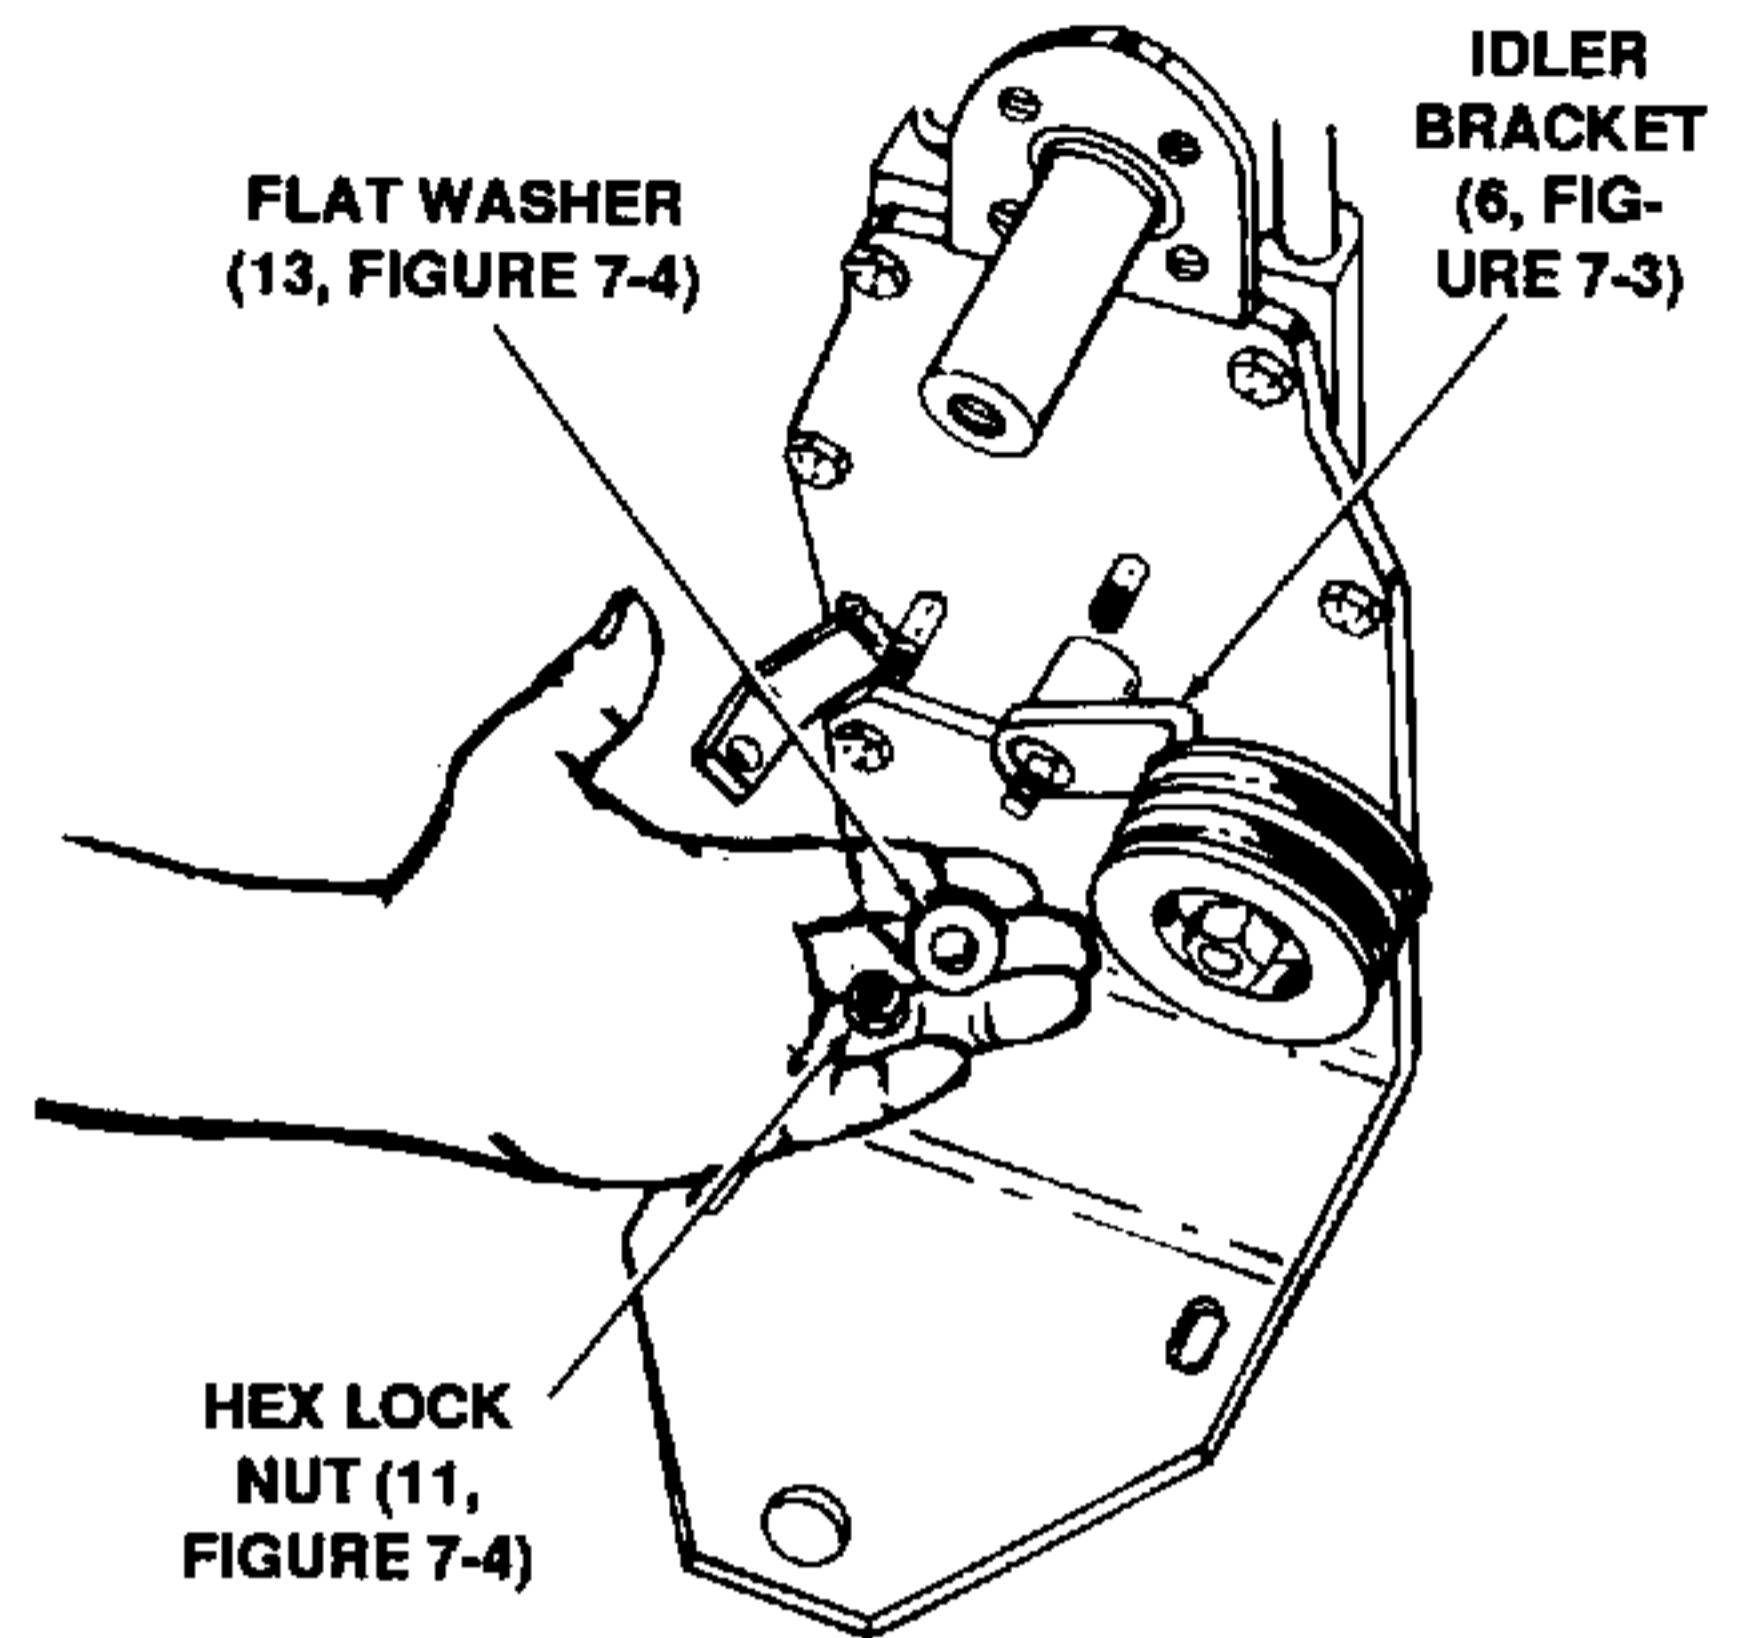

Figure 7-17. Securing the Idler Bracket Assembly.
- c. Secure idler bracket assembly with flat washer (13) and hex center lock nut (11). Refer to Figure 7-17.